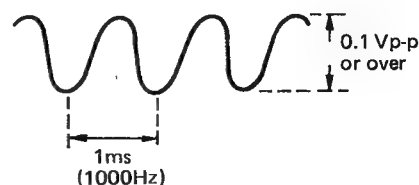

Figure 8-11.
2. Monitoring AN pin 1 with an oscilloscope (internal trigger), check that the requirements given in Figure 8-11 are met.